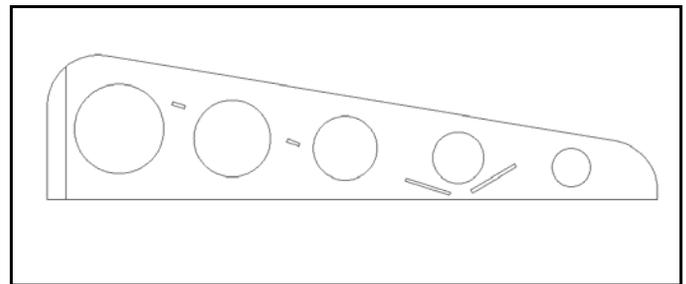
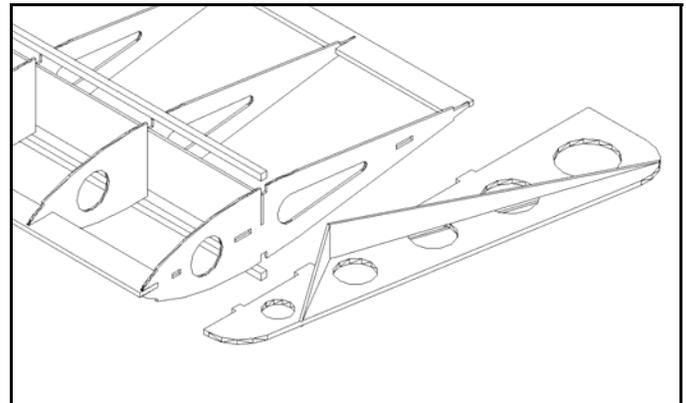

Figure 16a
Figure 16b
16. Remove parts W5- W5-A and assemble as shown in (Figure 16a) and sand break-aways until smooth. Install wing tips W5, along with braces W9 and W10. (Fig. 16b)